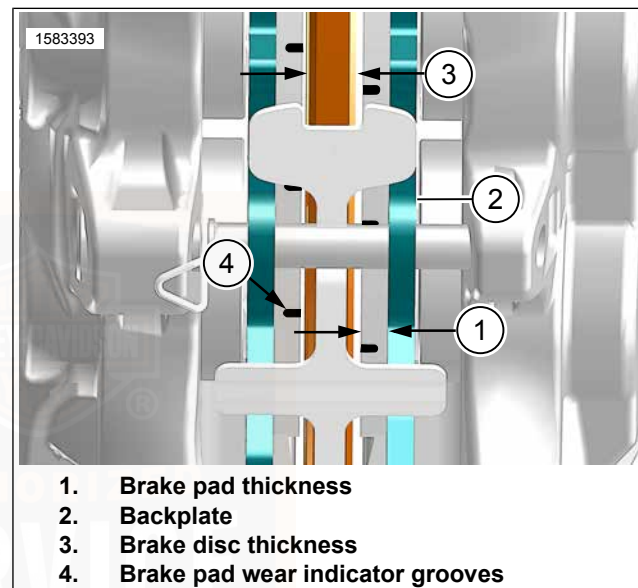

Figure 59. Brake Thickness (front shown)
2. See Figure 59. Measure the thickness of the brake pad friction material.